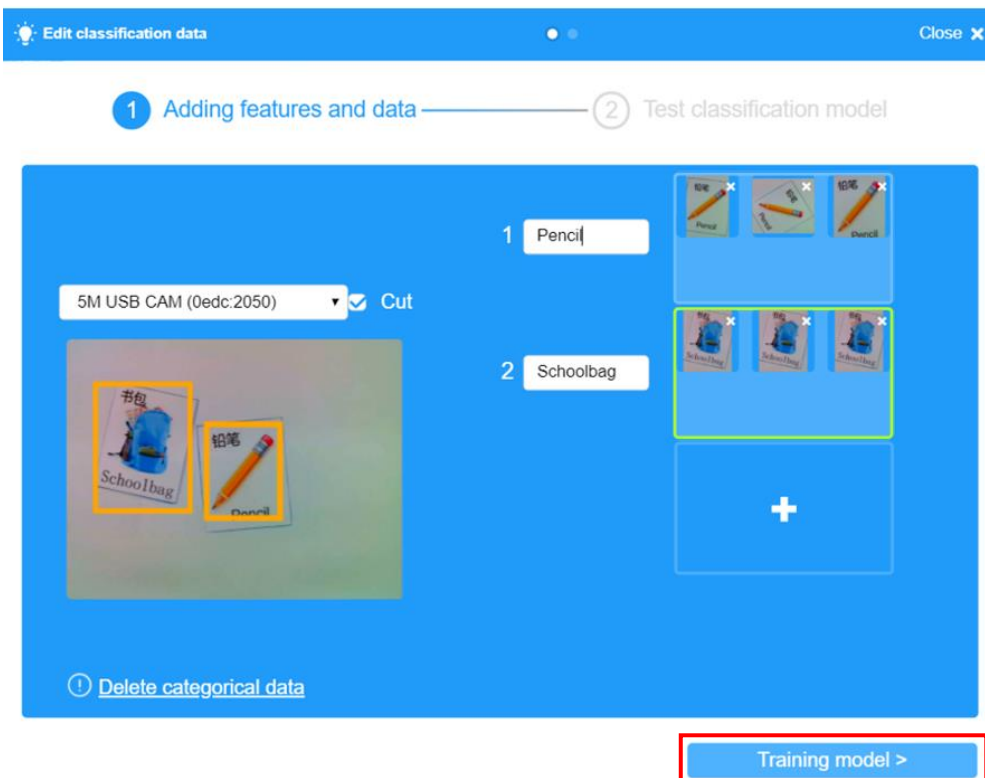

Figure 4.7 Training model
Step 9: Train the model. Click the "Training model" button, as shown in Figure 4.7.